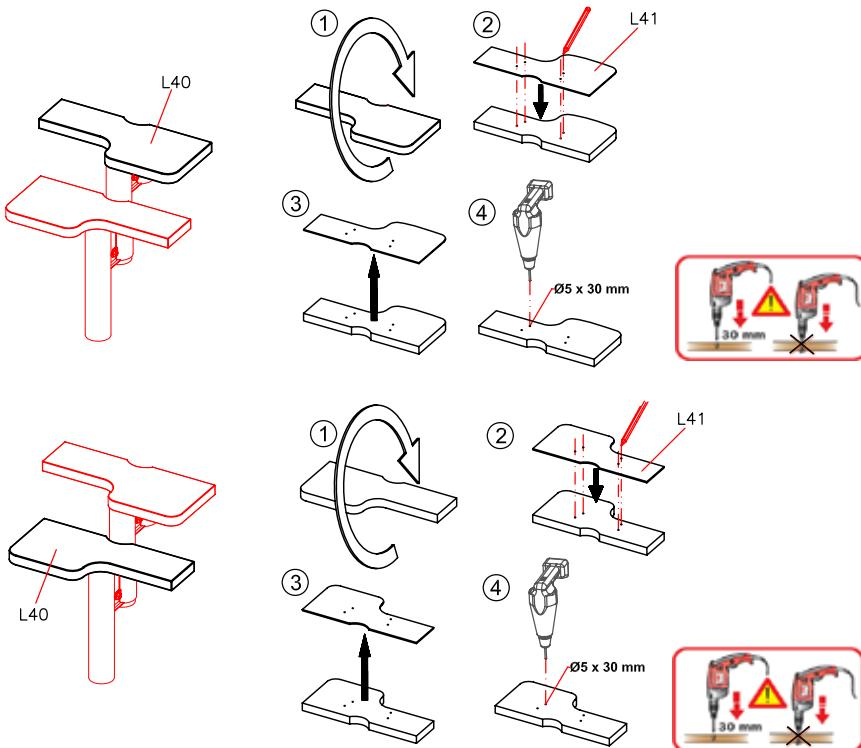

FIG. 5
- a. Set out with a pencil, at the connection point of two supports, two vertical lines at a distance of 9 mm (0,35") (to rotate 13°, configuration B or C) (fig. 5) or 13 mm (0,51") (to rotate 18°, configuration D) (fig. 6).